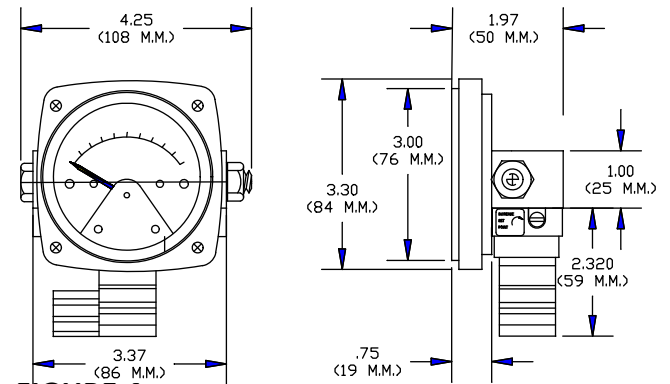
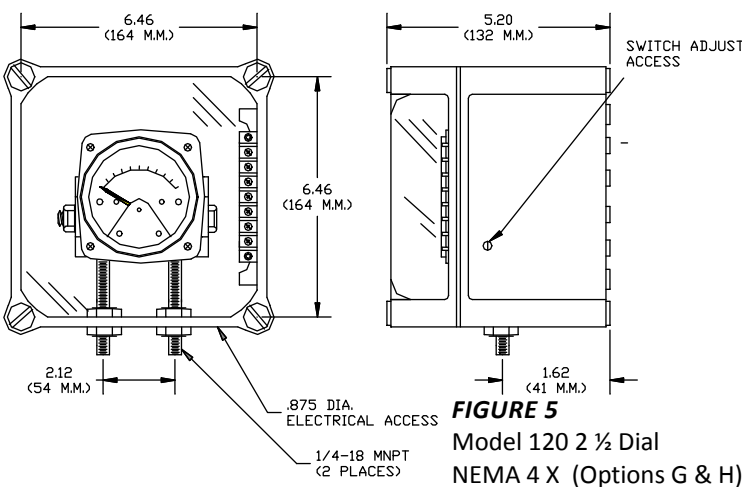

FIGURE 5
FIGURE 6
Wall mounting brackets are not required for the G, H, J & K electrical configurations because they can be mounted via the enclosure mounting ears (J & K) or mounting holes built into the enclosure (G & H). See figures 5 and 6 (Electrical configurations G & H) and Figure 8 for electrical configurations (J & K).
Access the terminal strip by removing the cover from the enclosure and loosening the (4) screws. Insert wires through an appropriate weatherproof connector (not supplied) into the enclosure and connect to the terminal strip. See the terminal strip diagram shown below or on the outside of the switch enclosure. Reinstall the cover and (4) screws (See Figures 5 & 6). For an assembly with 2 switches, the single single switch adjust is located on the right side of the enclosure.
External Switch adjust access holes and plugs are provided for the enclosure for the 2 1/2" dial. (See Figure 5). The cover for the Model 120 with 4 1/2" Dial must be removed to adjust the switch settings. (See Figure 6).